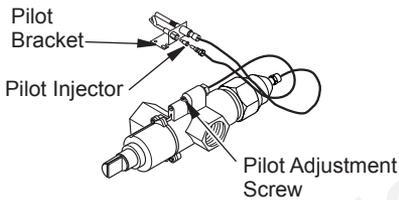

Figure 11 - Installing Propane/LP Pilot Orifice
14. Gently loosen and remove the pilot line connection from the pilot bracket (see Figure 11).
- Access pilot adjustment screw through slot in valve cover. Turn adjustment screw clockwise to decrease or counterclockwise to increase the flame to proper size (see Figure 11, page 9). Do not remove adjustment screw.